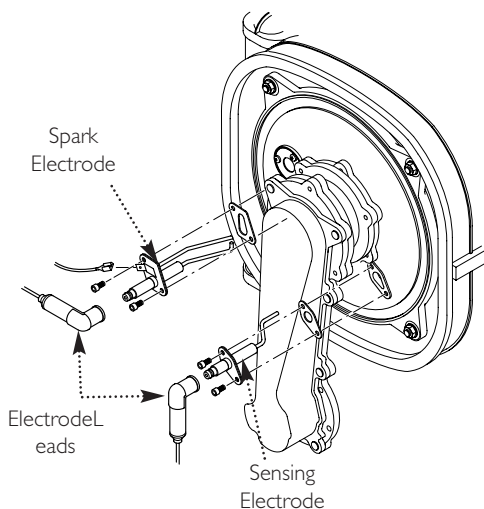

Fig. 70
14.2 Spark and Sensing Electrodes (Fig. 70)